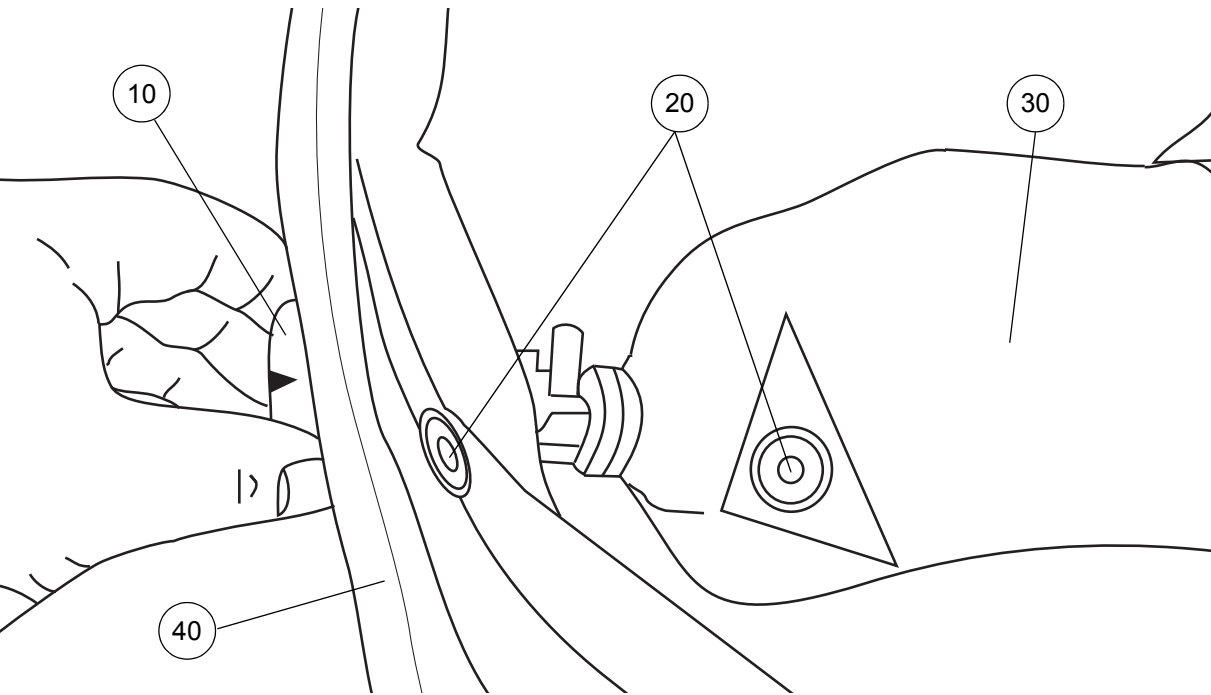

Figure 52 - Removing a Vent Valve from the Cell connection
- 30.2 On the Cell attached to the relevant vent valve, pull apart the pop stud (Fig 52, Item 20) which secures the top of the Cell (Fig 52, Item 30) to the Base Cover Assembly (Fig 52, Item 40).
- 30.4 To remove the Knob from the Vent Valve body, carry out the following procedure (Refer to Figure 52):
- 30.4.1 Hold the Vent Valve Knob (Fig 52, Item 10) with one hand, gripping it at the 3 o'clock and 9 o'clock positions. Hold the Cell (Fig 52, Item 30) with the other hand.